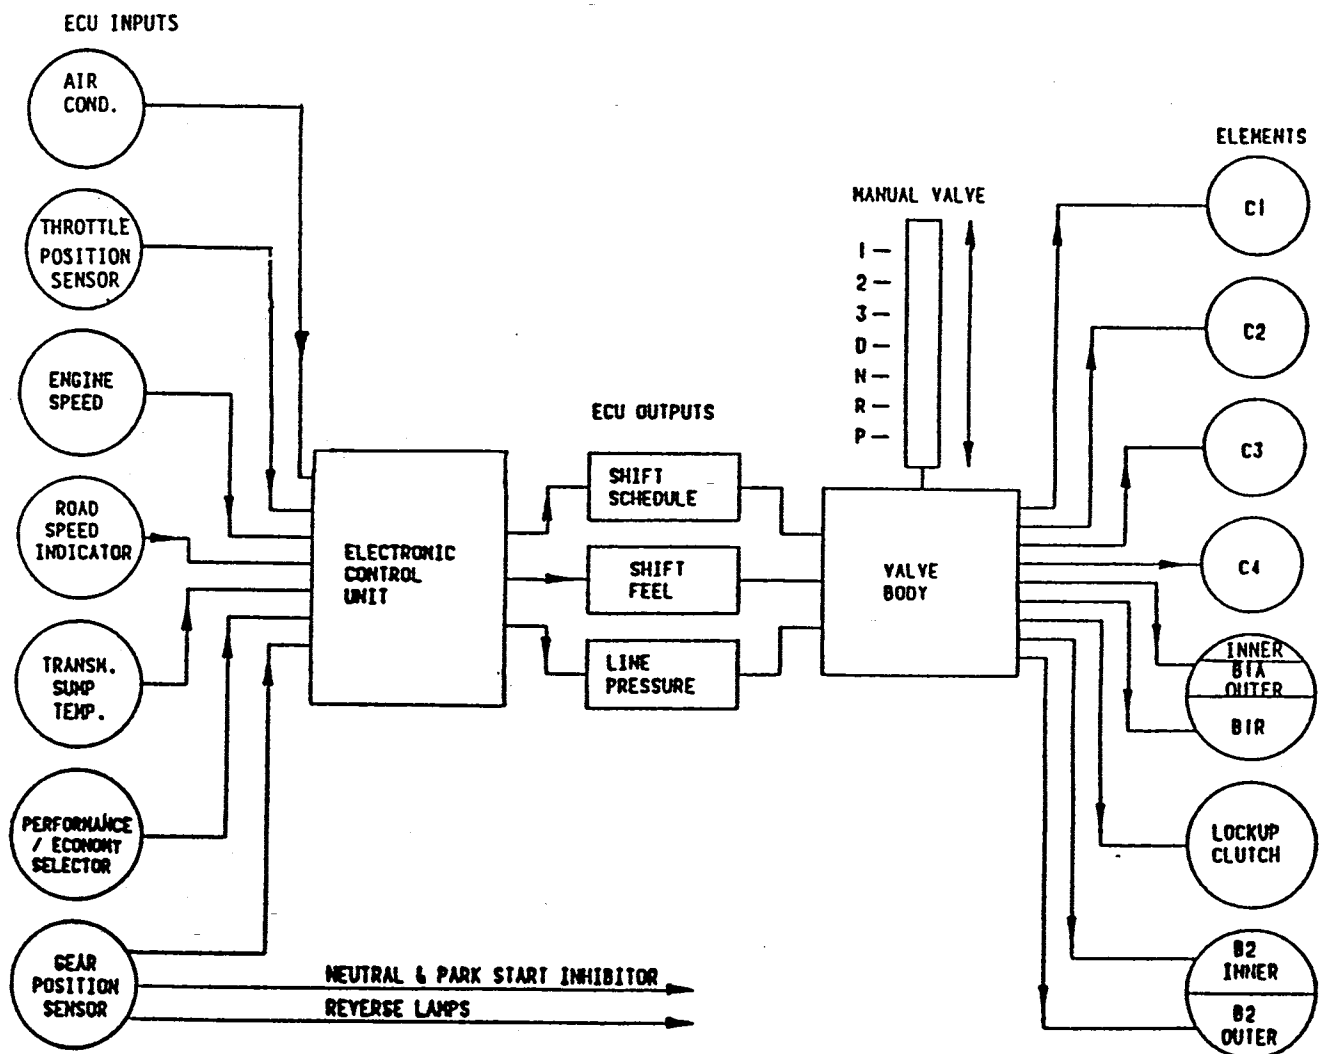

Figure 1. Transmission Control System.
There are seven (7) electronic inputs providing information to the electronic control unit (ECU) which controls the shift schedule, shift feel and line pressure. The ECU sends signals to the valve body which controls the application of the various elements, ie. clutches and bands. A pictorial representation of the transmission control system is shown below in figure 1.